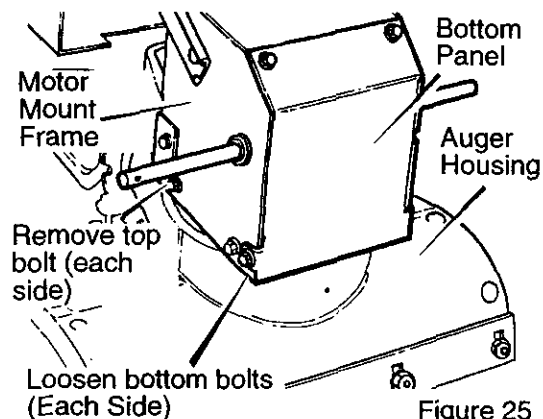

Figure 25
- Remove the **bolts** on each side of the **motor mount frame**. See Figure 25.
12. Install the **bolts** on each side of the **motor mount frame**. See Figure 25.
10. Install the bolts on each side of the motor mount frame. See Figure 25.